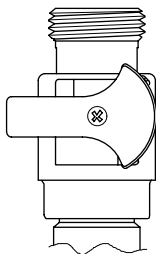

Figure 1
- Ensure the Probe Valve on the Perlick Smart Coupler is in closed position. *See figure 1.* Ensure the Beer Pump Flow Reversal/Dispense handle is in the dispense position. Adjust the **Secondary Air/ CO₂ regulator** located on the beer pump panel to a minimum operating pressure of 10 psig.
- Close probe valve on Perlick Smart Coupler. (*See figure 1*) and disconnect coupler from regulated water source.